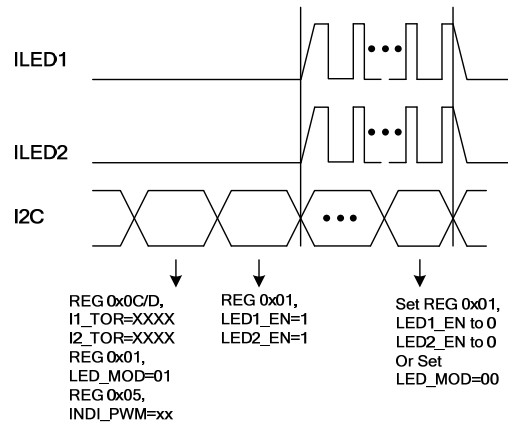

Figure 3: Indicator Mode
When LED_MOD is set to 01 and $LED_EN1/2$ is set to 1, the MP3336A enters indicator mode, which provides a low-current output (see Figure 3). In this mode, the driver current sources work in a 31.5kHz PWM dimming mode. The current amplitude can be set by $I1_TOR$ and $I2_TOR$, while the indicator current step ramps up more quickly at a rate of 7.84mA/step, compared to assist mode's ramp-up rate of 1.25mA/step. The final amplitude in this mode can be calculated with Equation (1):